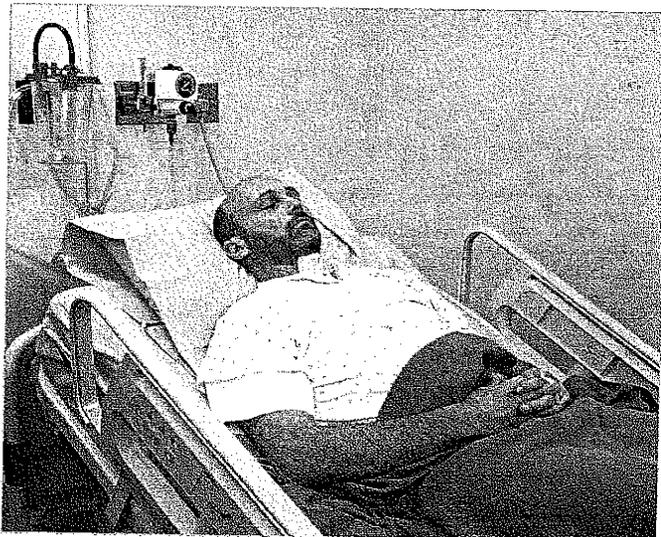

FIGURE 1. Patient in semi-Fowler's position.
7. Adjust bed to comfortable working position, usually elbow height of the caregiver (VISN 8, 2009). Lower side rail closest to you. **If patient is conscious, place him or her in a semi-Fowler's position (Figure 1). If patient is unconscious, place him or her in the lateral position, facing you.** Move the overbed table close to your work area and raise to waist height.